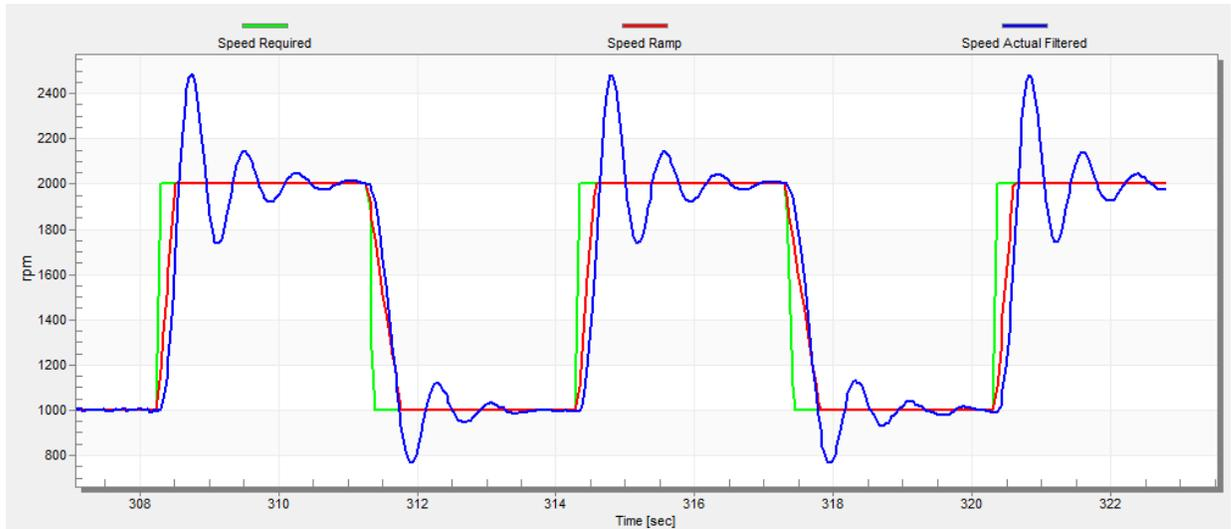

Figure 56. Speed controller response— $SL\_Kp$  value is low, Speed Actual Filtered greatly overshoots
- The “SL\_Kp” value is low, the “Speed Actual Filtered” greatly overshoots, and the long settling time is unwanted (see Figure 56).